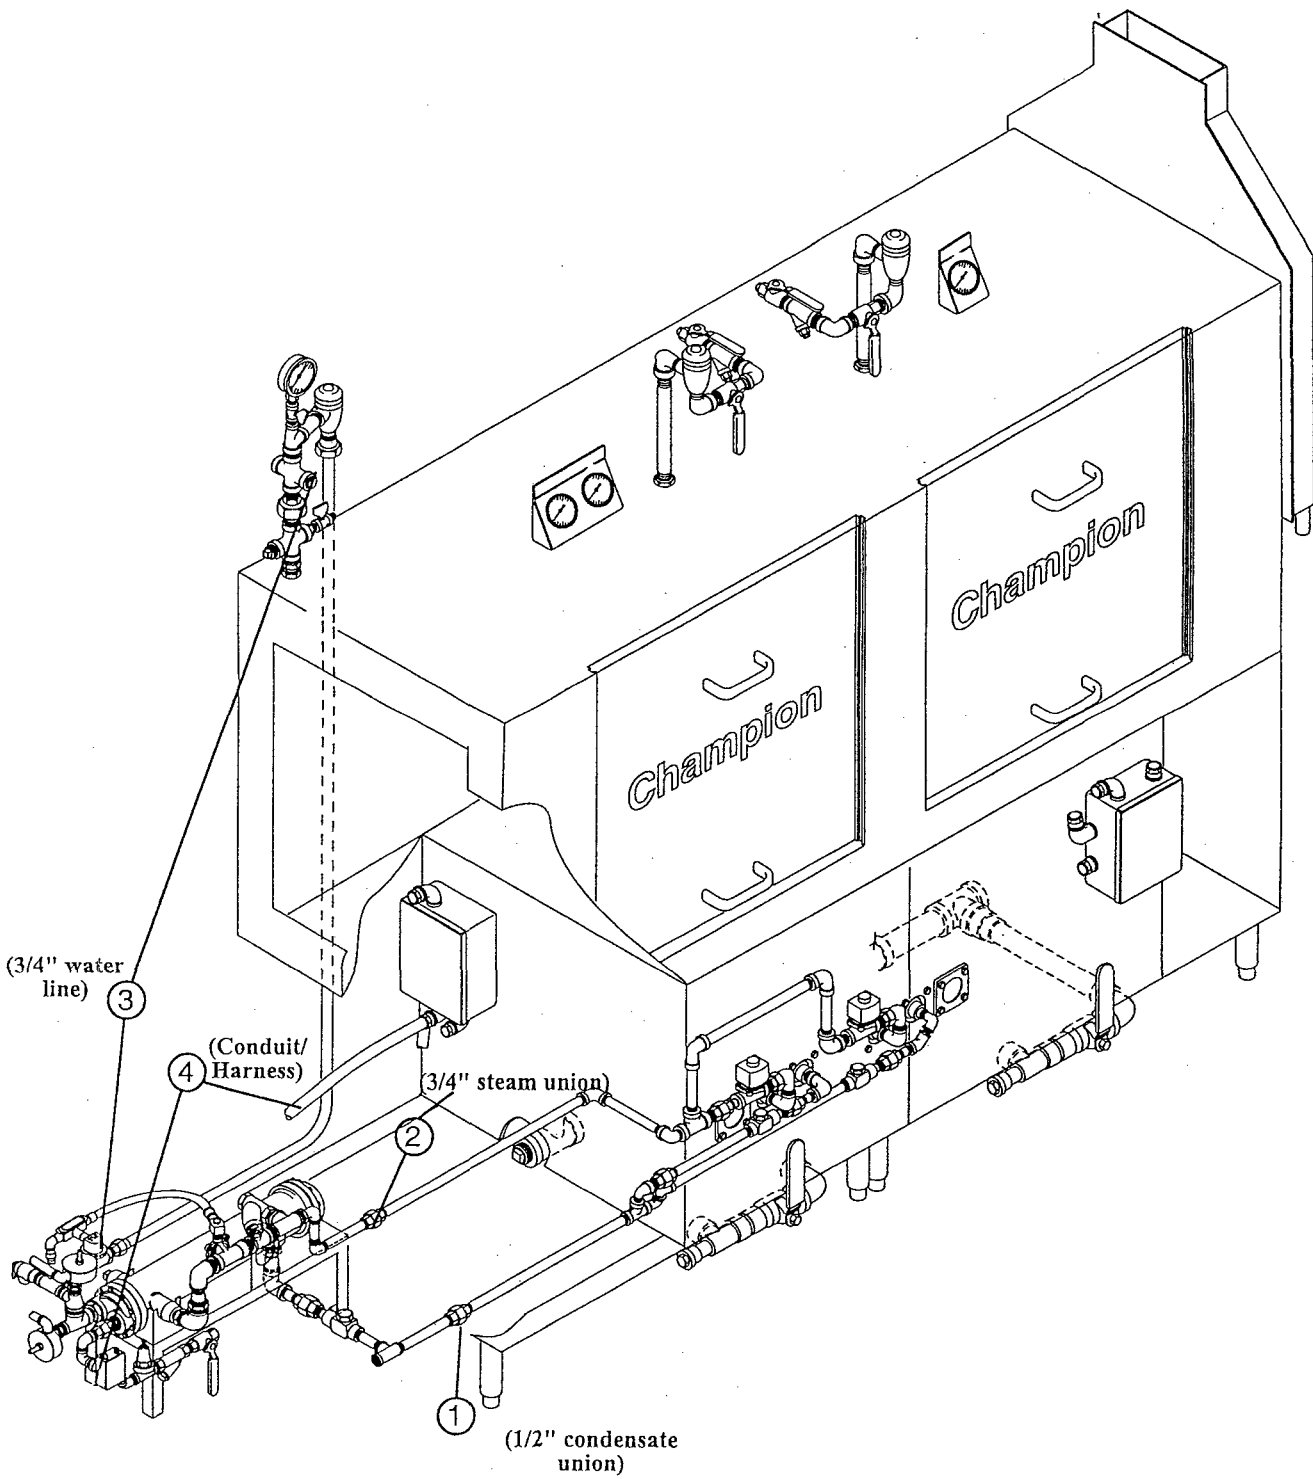

Figure 2.2
Refer to Figure 2.2 on the next page.
1. Connect the 1/2" condensate union from the dishwasher to the booster. (See No. 1, Fig. 2.2).
2. Connect the 3/4" steam union from the dishwasher to the booster. (See No. 2, Fig. 2.2).
3. Connect the 3/4" water line from the booster to the top of the dishwasher at the vacuum breaker. (See No. 3, Fig. 2.2).
4. Pull the electrical conduit and harness from the junction box located on the lower rear corner of the dishwasher to the booster junction box located on the lower left rear leg of the booster stand. (See No. 1, Fig. 2.2).